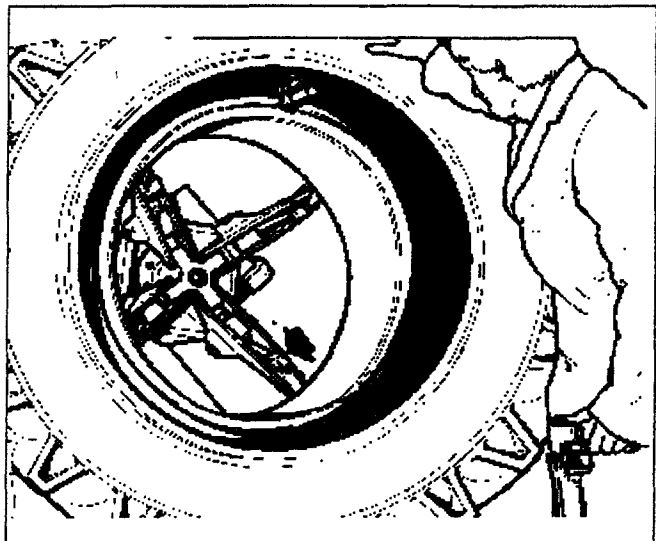

Fig.51
3. Place the hook tool as shown in Fig.51. The edge of the hook should be about 2-3 cm (1") away from the rim edge in radially and 2-3 cm (1") to the outside.